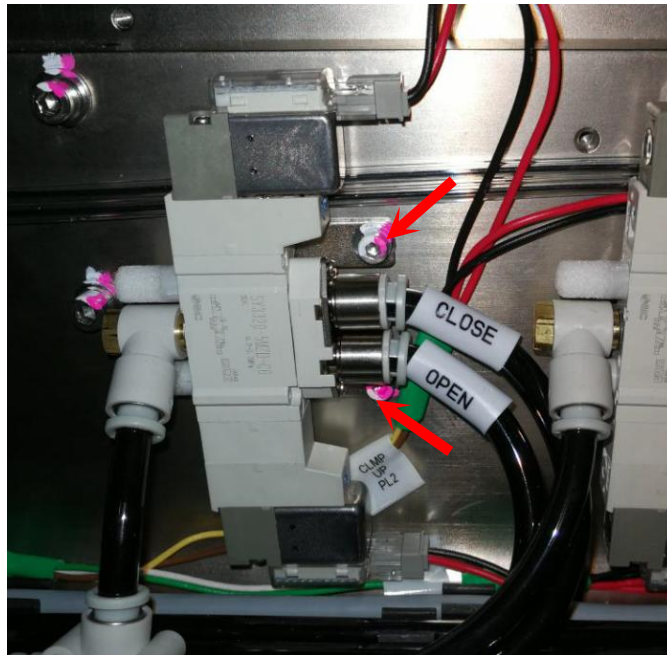

Figure 8 Adj Rail Clamper Pneumatic Valve Assembly
11. Assemble “S2EX Clamper Controller Kit” at Adj Rail Clamper Pneumatic Valve Location. Tighten 2 x Screws as below Figure 8